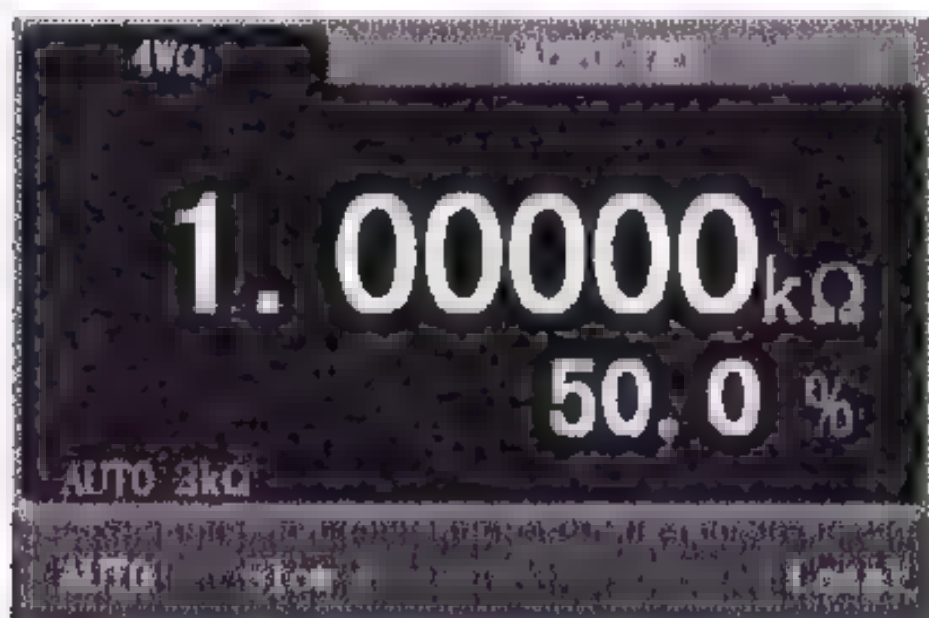

Figure 4-13 Measurement interface
1. In the 2-wire resistance measurement function, press SENSE again to select the 4-wire resistance measurement function. The measurement interface is shown in Figure 4-13